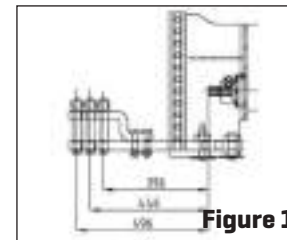
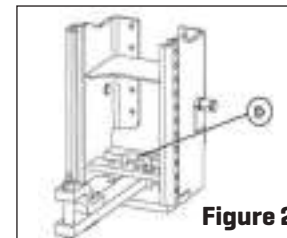
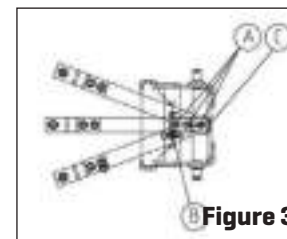

Figure 1
Figure 2
Figure 3
- Draw beam can have a lateral play to the right and left [Fig. 3]. A pin as shown in "D" [Fig. 2] shall be installed while towing the equipment in fixed position or while carrying a load with the trailer.
- The length of draw beam against the equipment may get longer or shorter as shown in Fig. 1. Pin "C" shown in Fig. 3 may be removed and adjusted by installing it to holes "A".